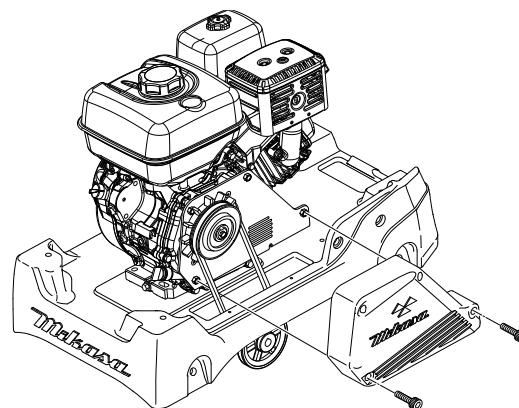

**Figure 6. Fuel Check**
1. Visually inspect (Figure 6) to see if fuel level is low. If fuel is low, replenish with unleaded fuel.